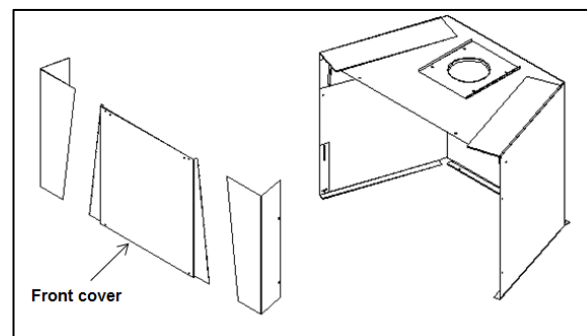

Figure 17: Circulating Chamber - Front Cover
- i. Remove the front cover of the unit and cut along the perforated lines to later use as the bottom cover within the masonry fireplace (Figure 17).